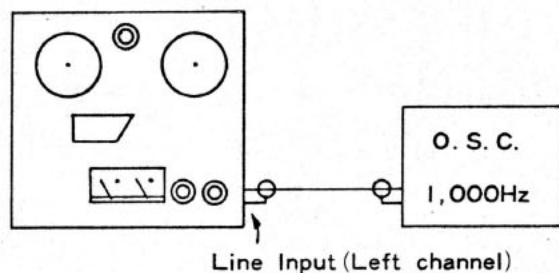

Fig. 7
- a) As shown in Fig. 7, connect an Audio Oscillator to the Left Line Input Jack (56) of the tape recorder, and supply a 1,000 Hz signal.
- c) Turn the Line Record Level Control Knob (19) so that the left channel VU meter needle indicates "O" VU (white mark). The COMPUT-O-MATIC should be set to the "OFF" position.